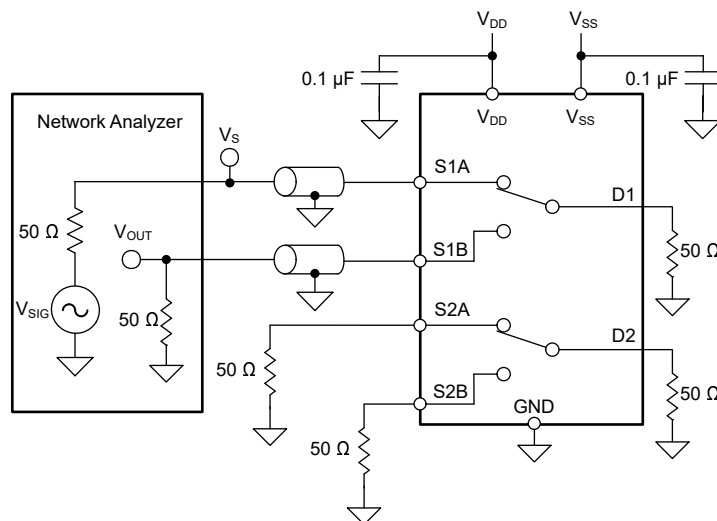

Figure 7-15. Intra-Channel Crosstalk Measurement Setup
1. Intra-channel crosstalk ($X_{\text{TALK(INTRA)}}$): the voltage at the source pin (S_x) of an off-switch input, when a 1- V_{RMS} signal is applied at the source pin of an on-switch input in the same channel, as shown in Figure 7-15.